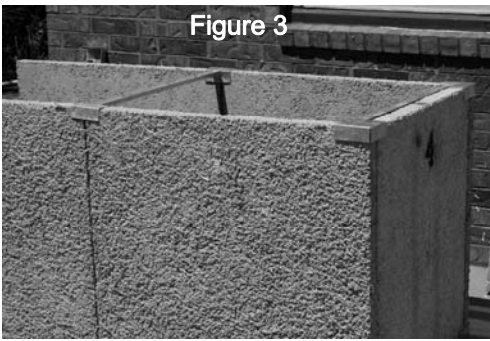

Figure 3
3. Place a 90° corner double weld end bracket at the top joint of the #3 and #4 panels (refer to Figure 3).
4. Place the straight single brackets on the ground at both ends of the next wall panel and place wall panel #3 in half of bracket and next wall panel in the other half. Continue setting the front (inner) wall panel #3 and back (outer) wall panel #3 using adhesive and brackets. Repeat this process until island walls are complete. NOTE: The welded brackets are intended to be used on the top, with the angle iron joining them providing extra support for the top panels or countertop (refer to Figure 3).